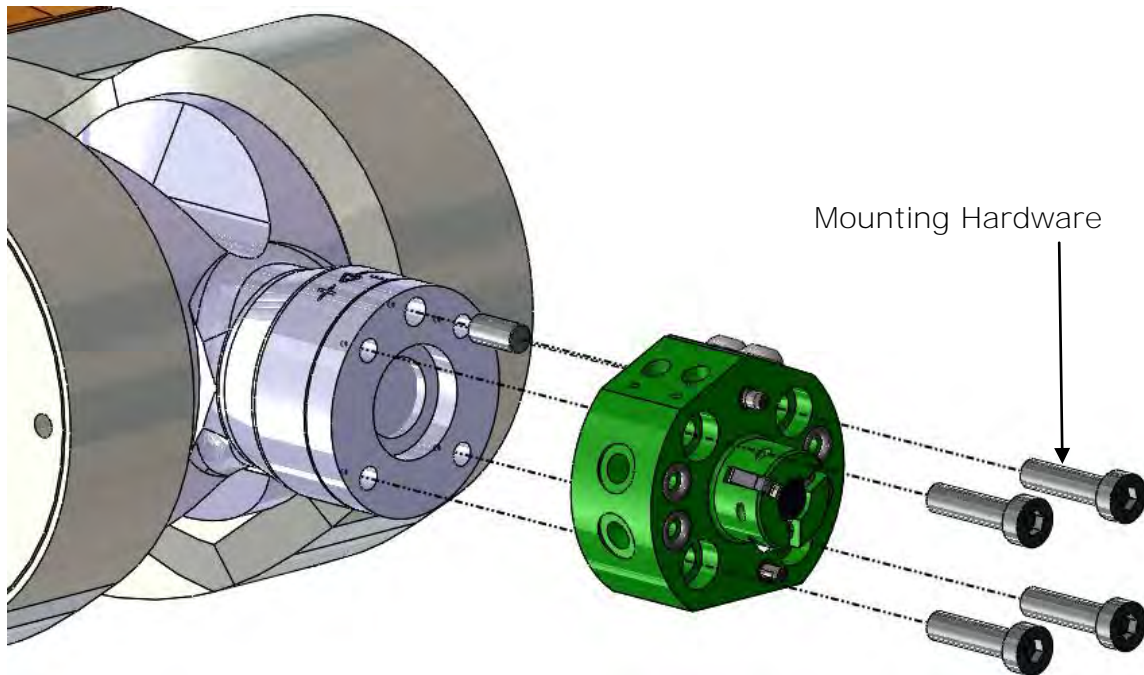

Figure 5.1-1. E31.5 Robot Adaptor Installation w/ M5 Hardware
1. Locate the Robot Adaptor to the manipulator mounting flange utilizing the locating boss and one (1) M5 locating dowel (Figure 5.1-1).